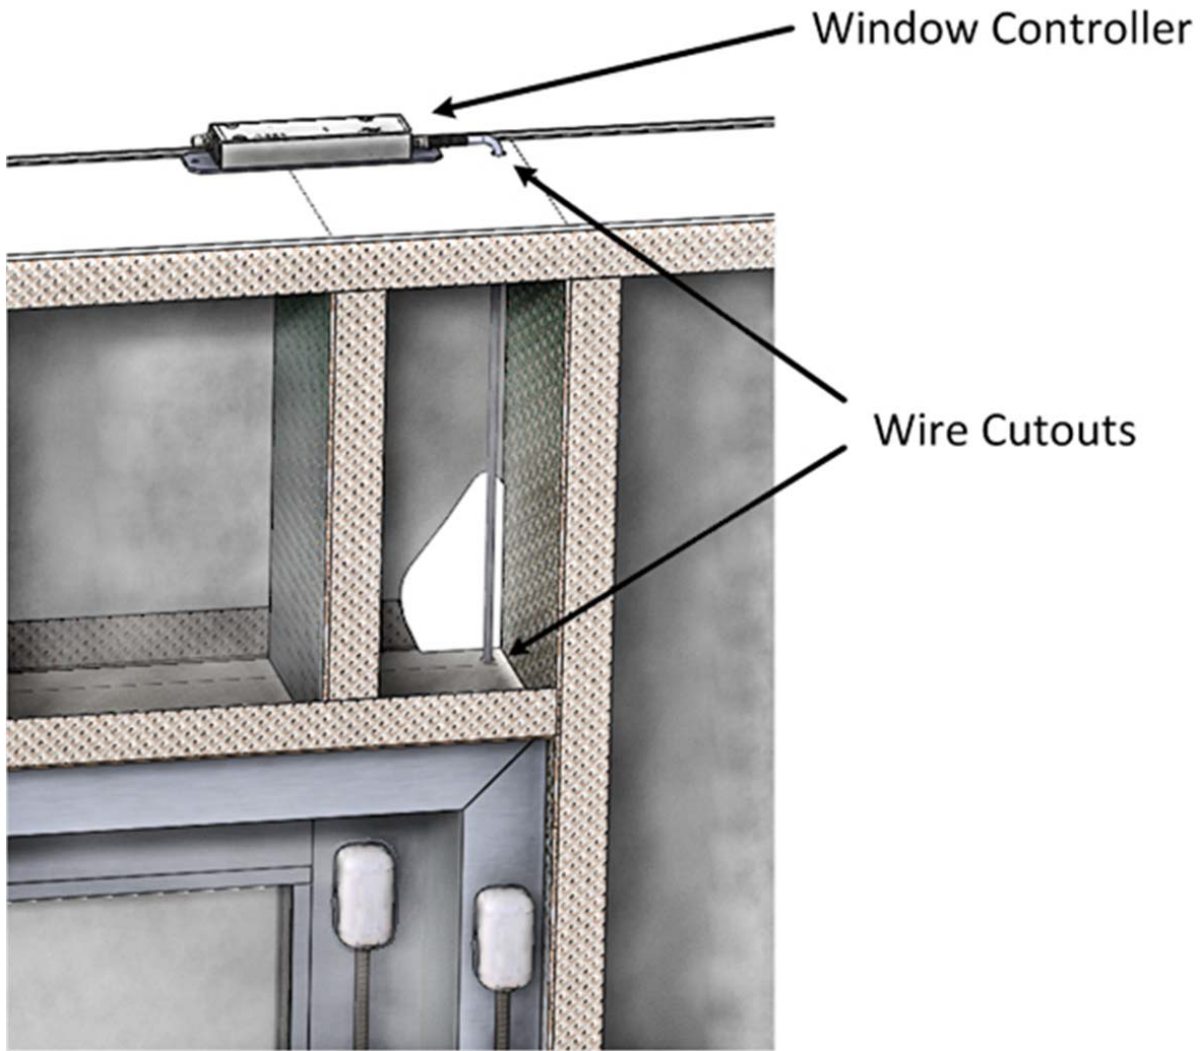

Figure 2 - Wire Cutout Examples
4. Openings in the walls will be required to gain access into the space in the framing system so that the Flex Loop can be connected (figure 2).